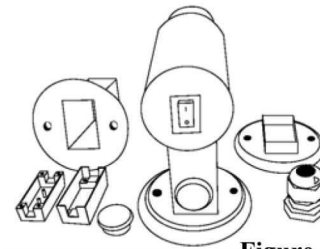

Figure. 3
4. Place the bracket washers between the wall brackets and the wall to avoid water leakage (see figure 3)